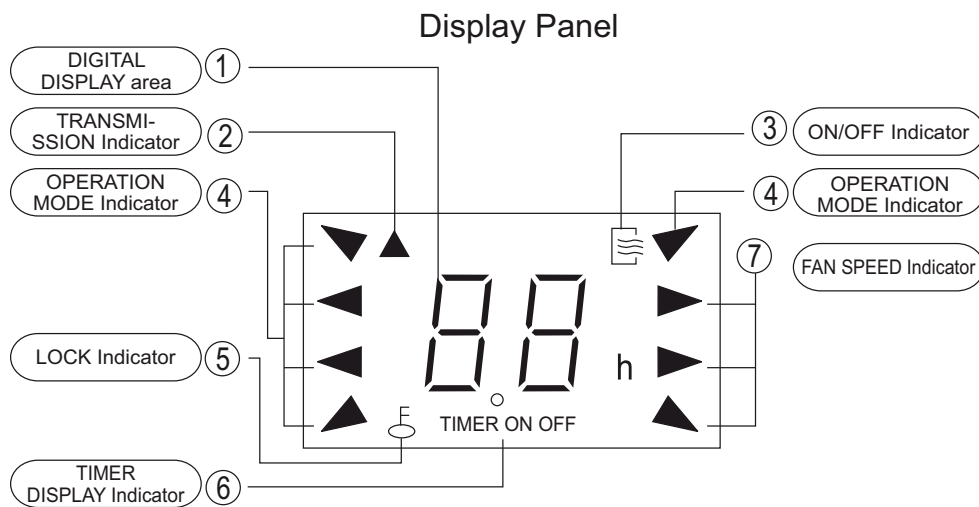

Fig. 2
- ① **DIGITAL DISPLAY area:** This area will show the set temperature and, if in the TIMER mode, will show the ON and OFF settings of the TIMER. If in the FAN mode, nothing is appeared.
- ② **TRANSMISSION Indicator:** This indicator flashes one time when remote controller transmits signals to the indoor unit.
- ③ ON/OFF Indicator: This symbol appears when the unit is turned on by the remote controller, and disappear when the unit is turned off.
- ④ OPERATION MODE Indicator: When press the MODE button, it shows the current operating mode -- "AUTO", "COOL", "DRY", "HEAT"(Cooling only model without) , or "FAN" mode.
- ⑤ LOCK Indicator: LOCK display is displayed by pushing the LOCK button. Push the LOCK button to clear display.
- ⑥ TIMER DISPLAY Indicator: This display area shows the settings of the TIMER. That is, if only the starting time of operation is set, it will display the TIMER ON. If only the turning off time of operation is set, it will display the TIMER OFF. If both operations are set, it will show TIMER ON-OFF which indicates you have chosen to set both the starting time and off time.
- ⑦ FAN SPEED Indicator: Press the FAN SPEED button to select the desired fan speed setting (Auto-Low-Med-High). You selection will be displayed in the LCD window except the Auto fan speed.
**NOTE:** All signs shown in the Fig.2 is for the purpose of clear presentation. But during the actual operation only the relative functional signs are shown on the display panel.